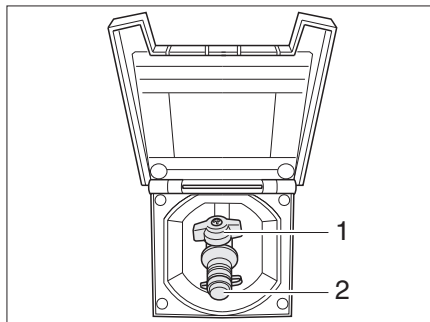

Fig. 244 External gas connection, gas isolator tap closed
The external gas connection (Fig. 244) is located at the right-hand side of the vehicle. In exceptional cases the external gas connection is also located on the left-hand vehicle side or the rear.
- Connect the external gas device to the connection point (Fig. 244,2).
- Open the gas isolator tap (Fig. 244,1).